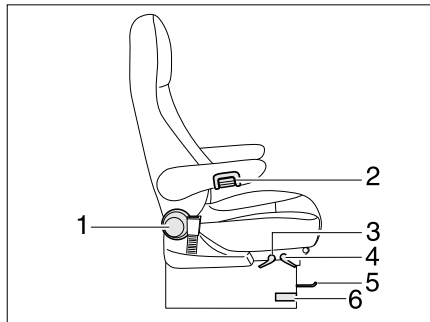

Fig. 96 Driver's and front passenger's seats
- Push or pull the lever to turn the seat (Fig. 96,6). The seat is released from the locking device.